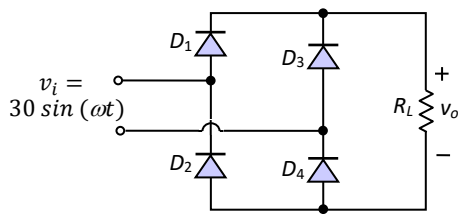

Fig.3-107: Full-wave bridge rectifier for Exercise no. 16
16. A full-wave bridge rectifier is shown in Fig.3-107. If the diode resistance $r_D = 50\ \Omega$, and the source resistance $r_s = 50\ \Omega$, and $V_D = 0.7\text{ V}$ calculate the RMS and average output voltage i) With considering all parameters, and ii) Considering ideal condition.
19. Repeat Exercise no. 18 for the circuit of Fig.3-106 and Fig.3-107.
20. For the full-wave rectifier of Fig.3-107, calculate the value of capacitance required so that the ripple factor is not more than 1 % of average value.
21. For the full-wave rectifier of Fig.3-107, calculate the value of capacitance required so that the ripple factor is not more than 0.5 % of average value.